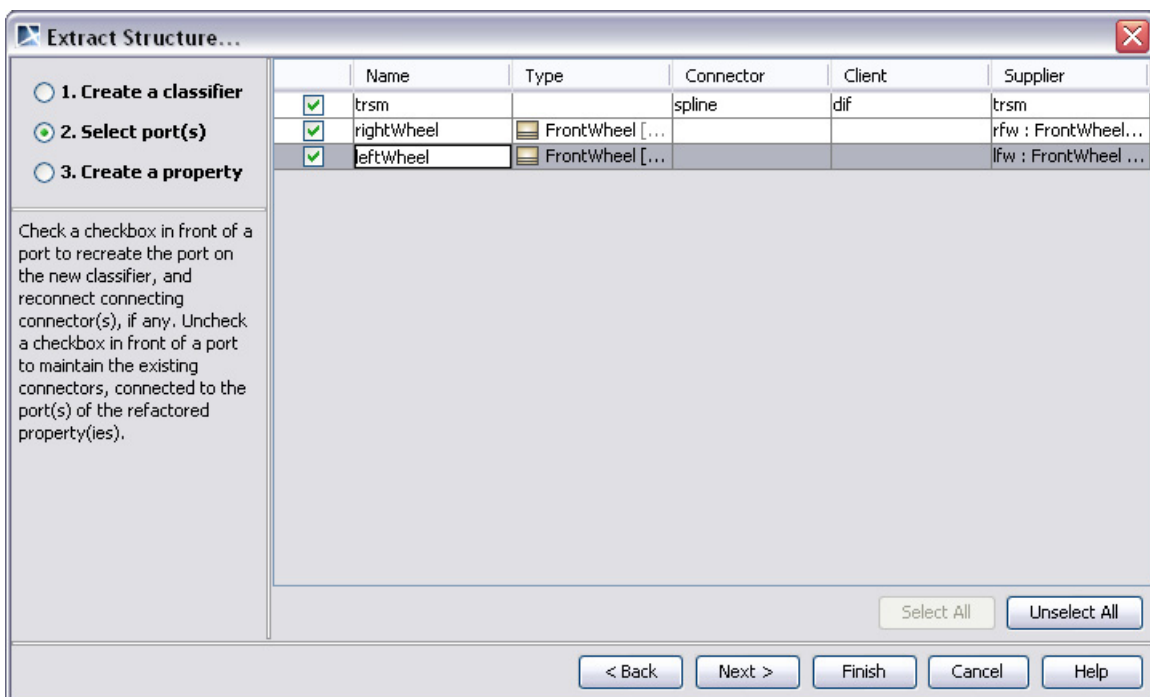

Figure 98 -- Step 2 - Select port(s) Pane
All the ports available to be defined on the Classifier to be created are listed in the table as shown in Figure 98. If you do not need a port, remove it by clearing the check box in front of the port name. If you clear any of the ports' check boxes, the connectors will be directly connected to the structure inside the extracted classifier.
- In the first column, select the ports which you want to create for the connectors that are connected to the elements outside the extracted classifier. The connectors which are shown in the **Connector** column will be reconnected to these ports instead of being connected to the selected structures (Figure 98).
- You can change the port name in the **Name** column (Figure 98).
- You can change the port type using the drop-down list in the **Type** column (Figure 98).
- The **Connector** column shows the name of the connector which is connected to the created port after a structure has been extracted (Figure 98).
- The **Client** and **Supplier** columns show the client and supplier elements of the connectors defined in the **Connector** column (Figure 98).
- Click either **Next** to proceed to the next step or **Finish** to finish extracting a structure (Figure 98).